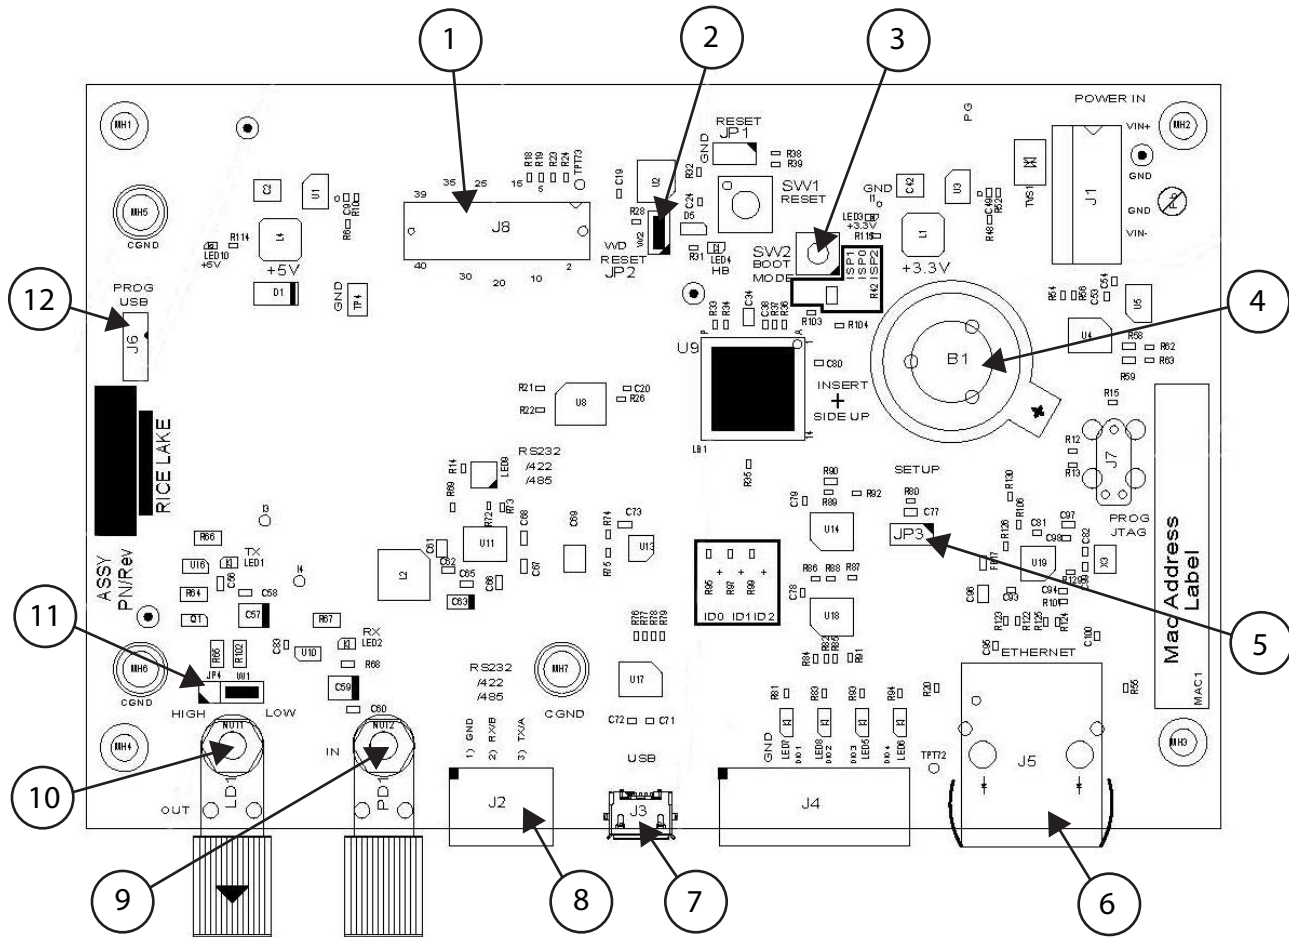

Figure 2-3. Rev G+ I/O Module CPU Board (PN 176922)
The 882IS I/O Module is equipped with a duplex fiber optic port for communicating with an 882IS or 882IS Plus located in the safe or hazardous area. It provides electrical isolation and eliminates the use of I/O barriers commonly used in intrinsically safe systems. The optical fibers are plastic and the terminate ends must be properly polished prior to installation. Refer to POF Polishing kit (PN 197384) for complete instructions on polishing the fiber-optic ends. See Figure 2-3 on page 8 for the location of the fiber optic connectors in the 882IS I/O Module.
The lithium battery on the 882IS I/O Module board maintains the real-time clock when it is not connected to AC power. See Figure 2-3 on page 8 for battery location and orientation (positive side up).
4. Remove the JP2 WD Reset jumper and set aside (see Figure 2-3 on page 8).
5. Press and hold the SW2 boot mode switch (see Figure 2-3 on page 8).